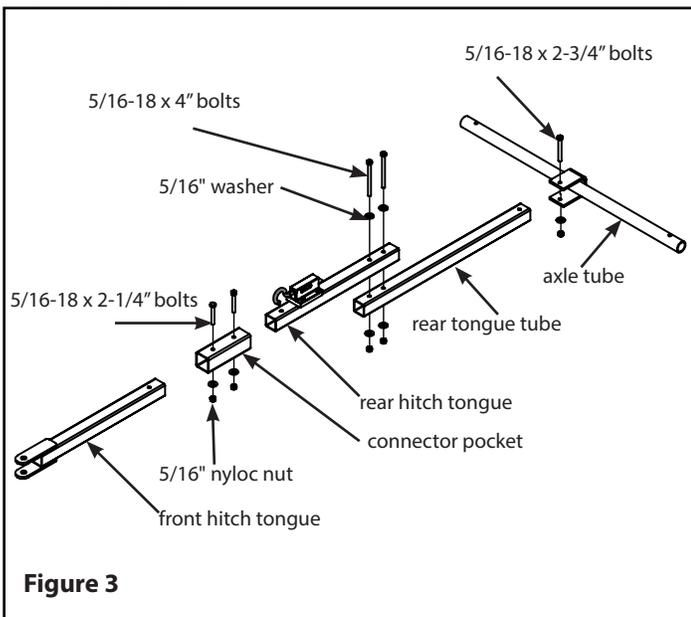

Figure 3
3. Insert rear tongue tube (TK81) into the welded on "U"- bracket located on the axle tube (TK80) and secure using (1) provided 5/16-18 x 2-3/4 bolt, nyloc nut, and 5/16" washer on the nut side. **SEE FIGURE 3**
4. Insert the front hitch tongue (TK85) and the rear hitch tongue (TK87) into the connector pocket (TK89) and secure it using (2) provided 5/16-18 x 2-1/4" bolts, (2) nyloc nuts, and (2) 5/16" washers on the nut side. **SEE FIGURE 3**
5. Attach the previous hitch tongue to the rear tongue tube by stacking the tubes with the front tongue on top. Insert the provided (2) 5/16-18 x 4" bolts with (4) 5/16" washers and (2) nyloc nuts. **SEE FIGURE 3**